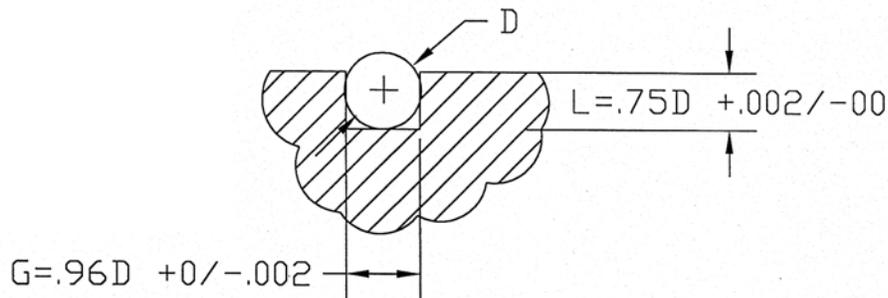

Figure 2 - Narrow O-Ring Groove
2. Narrow O-Ring Groove. This groove is slightly narrower than the diameter of the gasket (see figure 2 below), and is so designed to hold the gasket in place during manufacturing and maintenance processes. The groove is more expensive to machine than the regular O-Ring groove and slightly less expensive than the Dovetail Groove. The recommended tolerance on the width of the groove is $\pm .001$ inches. To obtain the recommended tolerance three passes must be made during the machining process.